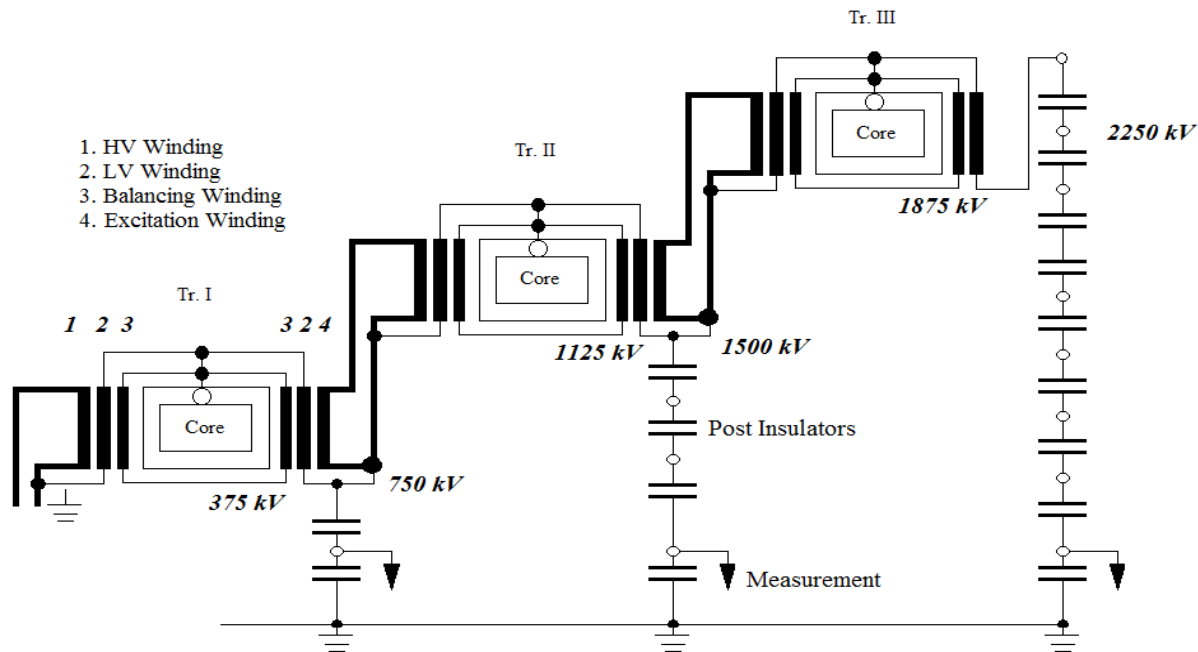

Fig. 5 Schematic of an ac 2250 kV test set circuit in cascade
- There are several methods of designing the cascade test sets. In Fig. 5 schematic diagram of another power frequency test set cascade of $3 \times 750 = 2250$ kV rating is shown.